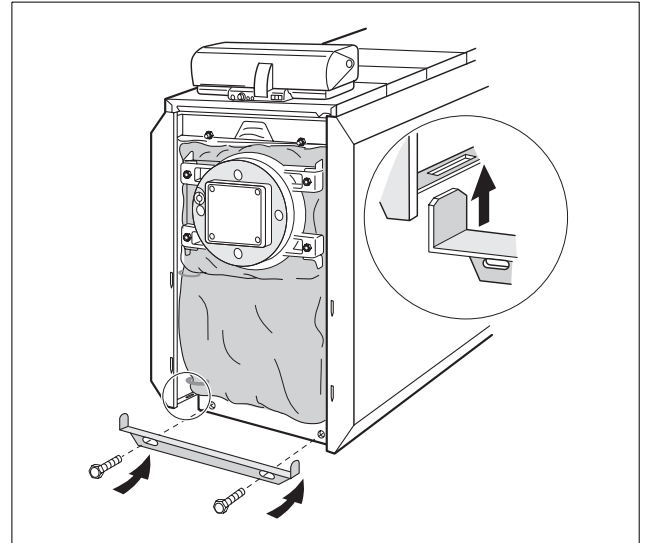

Fig. 21 Securing the lower front cross bracket
- Insert the tabs of the lower front cross bracket into the slots of the side jacket panels and secure the cross bracket with 2 screws to the front of the boiler (Fig. 21).